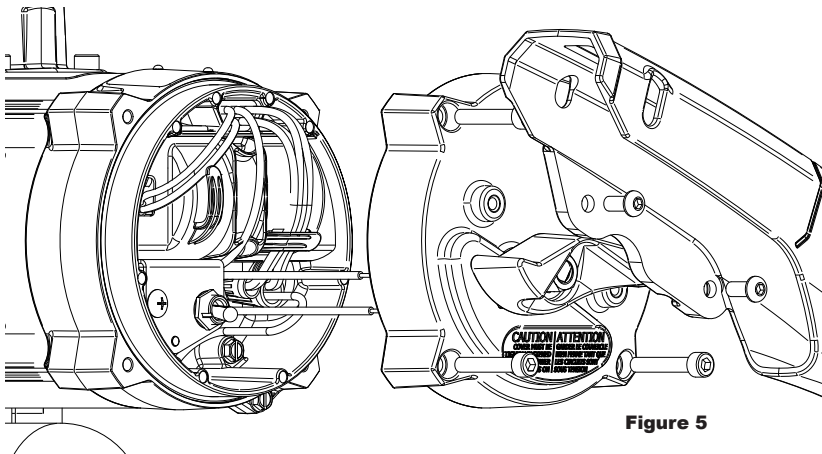

Figure 5
1. Remove electrical cover plate (see Figure 5). Install conduit and cable from supply power to pump junction box. Wiring must be in accordance with Class I, Division 1 requirements in the applicable national electrical code. Note that the lead wires are factory-sealed isolating the motor from the junction box.